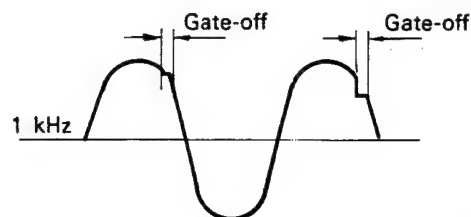

Fig. 16
5. Use an oscilloscope to check that the pulse noise component is eliminated from the signal. (See Fig. 16.)